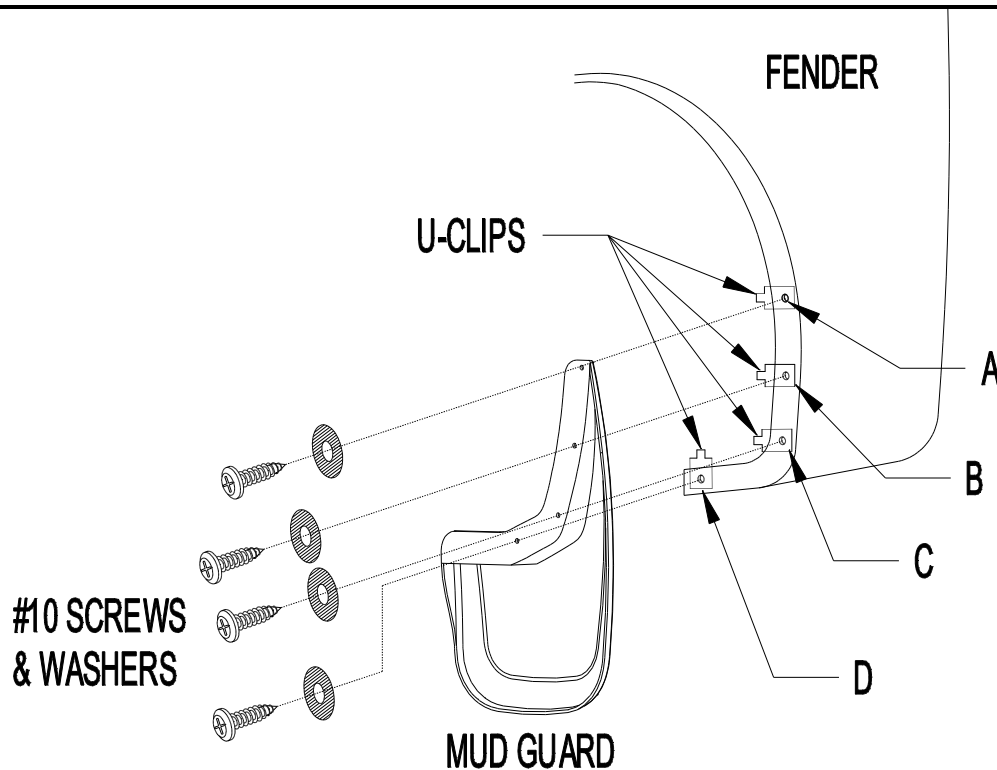

Figure 1
3. Install mud guard to rear fender with a #10 screw, washer and u-clip at location B (Figure 1). Check fit and parallel and adjust accordingly before tightening.